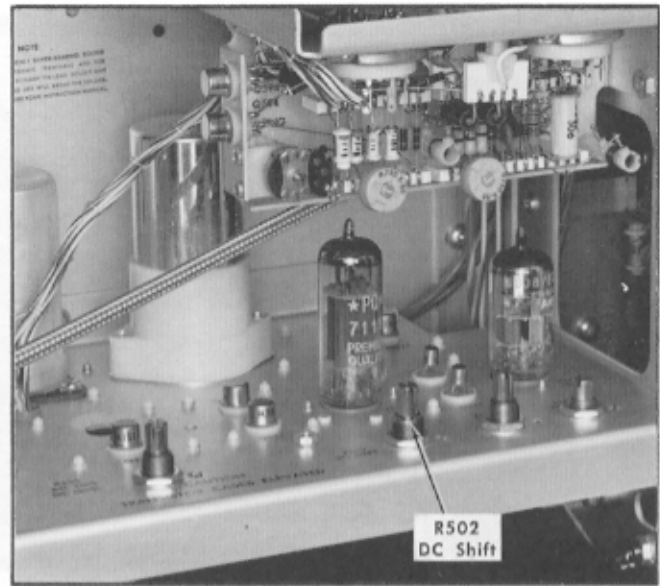

Fig. 6-38. Location of DC Shift adjustment R502.
- Adjust the DC Shift R502 (Fig. 6-38) for minimum waveform tilt.